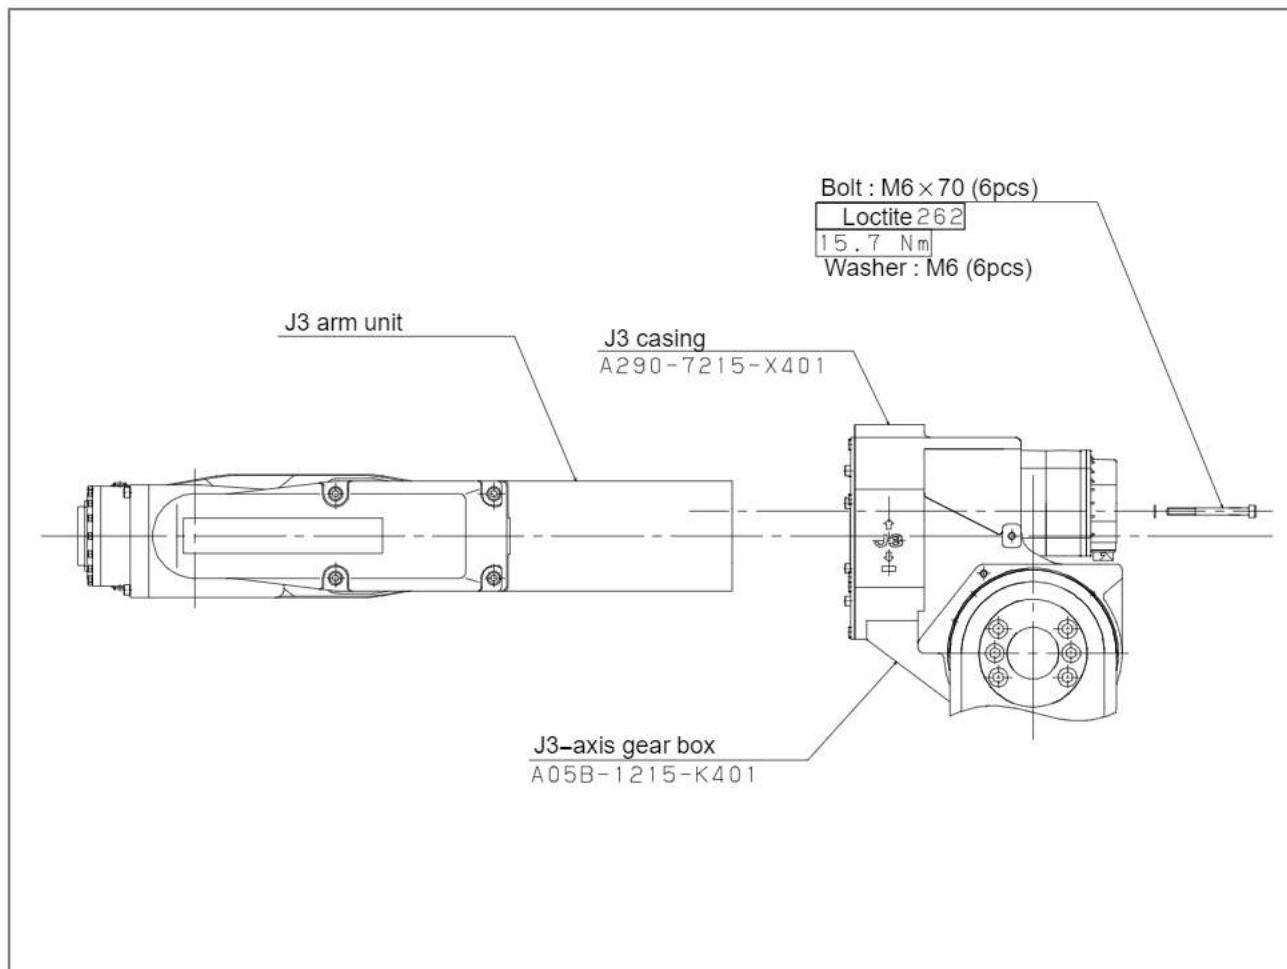

Fig 6.8 Replacing the J4-axis gearbox unit
- 3 Suspend the J3 arm through an M6 eye bolt with a crane. Remove the six M6 × 70 bolts that fasten the J3 arm to the J4 gearbox unit, and dismount the J3 arm from the J4-axis gearbox unit. (See Fig. 6.8.)